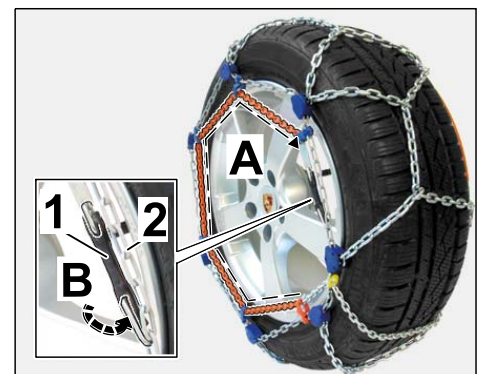
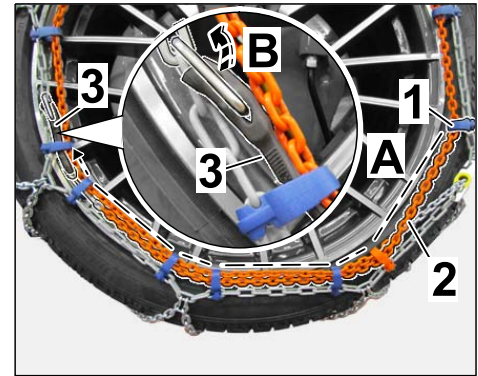

Figure 13
Figure 14
2.3.3 Feed the rest of the tensioning chain in a circle (⇒ *Figure 13-A-* over the complete wheel through the remaining steel eyelets.
2.3.4 If the tensioning chain does not end at the last steel eyelet: Feed the tensioning chain through the steel eyelets again ⇒ *Figure 14 -A-*.
2.3.5 Engage hook of the bungee cord slightly tensioned into a chain link on the outer chain (⇒ *Figure 13 -B-* or ⇒ *Figure 14 -B-*).